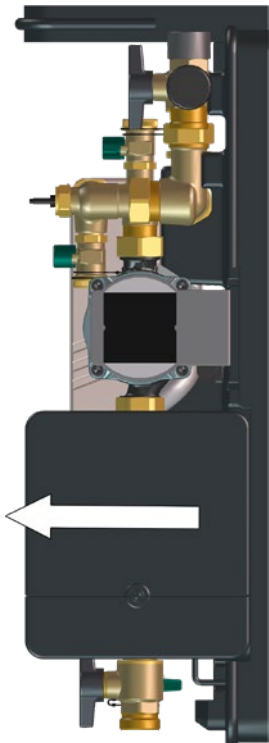

Fig. 20: Removal of the controller from the lower shell
- 1 Carefully pull the controller off the lower shell as shown in Fig. 20 on page 26.
- Put the controller back from the mounting position to the operation position (see Fig. 20 on page 26).